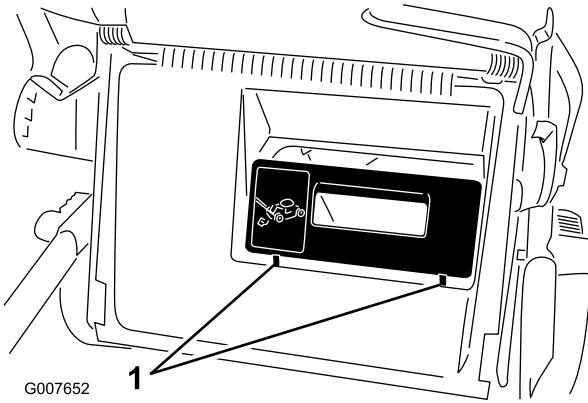

Figure 34
**Important:** Ensure that the rear discharge plug is securely in place. Lift up the discharge deflector and look for 2 tabs in front of the plug (Figure 34). If you do not see them, firmly push the plug in until it snaps into place.